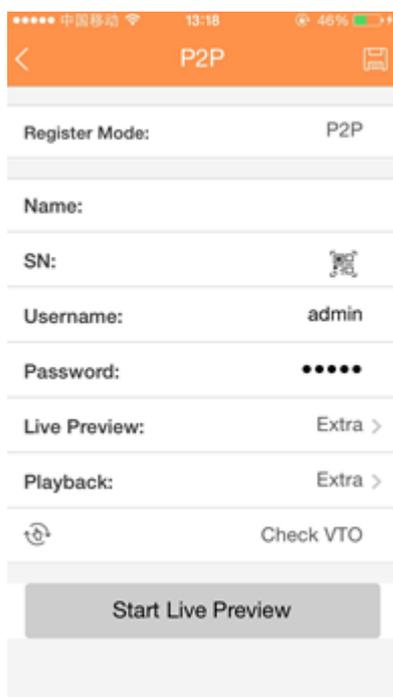

Figure 2-179
3. Tap Device manager button, you can use several modes (P2P/DDNS/IP and etc.) to add the device. Click  to save current setup. Tap Start Live preview to view all-channel video from the connected device. See Figure 2-179.